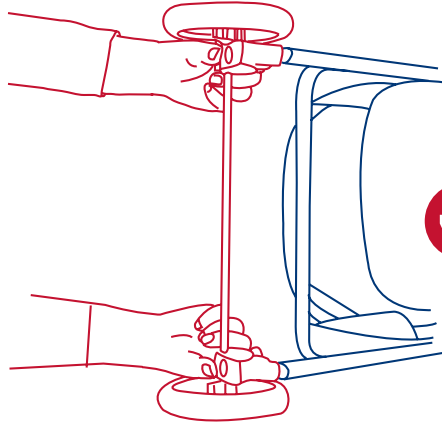

Fig. 16
* Lift up on the stroller handle with both hands until the stroller frame is erect and locked in the open position. See figure 16. The stroller has spring-loaded latches on both sides of the frame. Test that both latches are fully engaged prior to placing your child in the stroller.